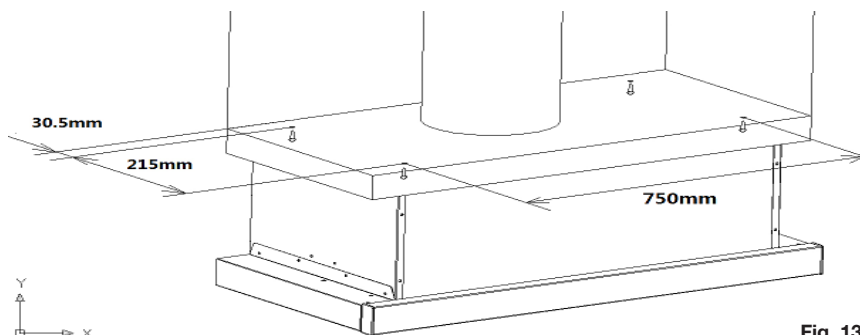

Fig. 13
- Install the rangehood onto the bottom of the cupboard and secure it in place with four ST4x30mm screws (Fig 13).